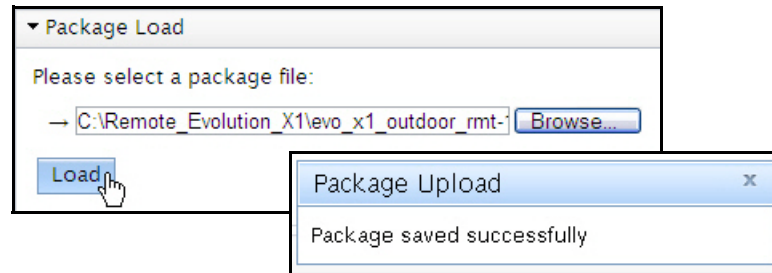

Figure 28. Loading an Evolution X1 Image File
5. In the Package Load section of the File Management page, click Load to send the remote package file to the Satellite Router. You should see a message indicating that the operation was successful (Figure 28).